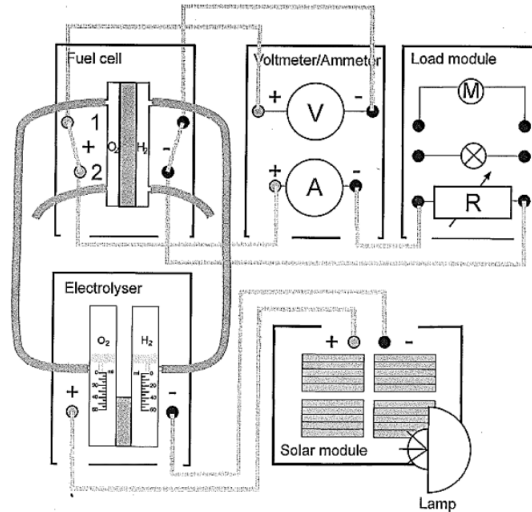

Figure 8: Setup for fuel cell experiment. [1]
1. The fuel cell, in order to produce electricity and water, needs a supply of hydrogen and oxygen from the electrolyser (see **Figure 8**). Make sure the tubes are correctly connected.